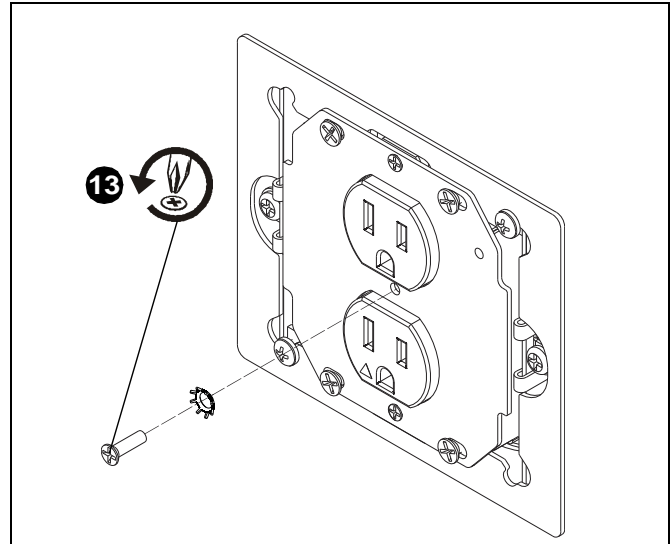

Figure 15
13. Remove Phillips flat head screw and locking washer from in between outlets. (See Figure 15)